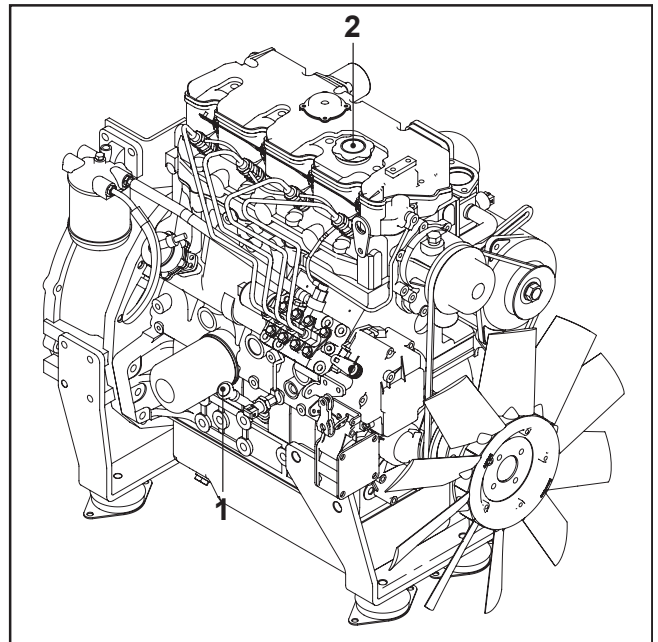

FIG.68
- Put the oil drain plug back in, remove the refilling cap (FIG. 68-REF. 2), refill with oil and put back the cap. Check the level on the dipstick. It should be near the maximum mark (FIG. 68-REF. 1).
- Remove the refilling cap (FIG. 68-REF. 2), refill with oil and put back the cap.
- Make sure the level shown on the dipstick (FIG. 68-REF. 1) is near the maximum mark.